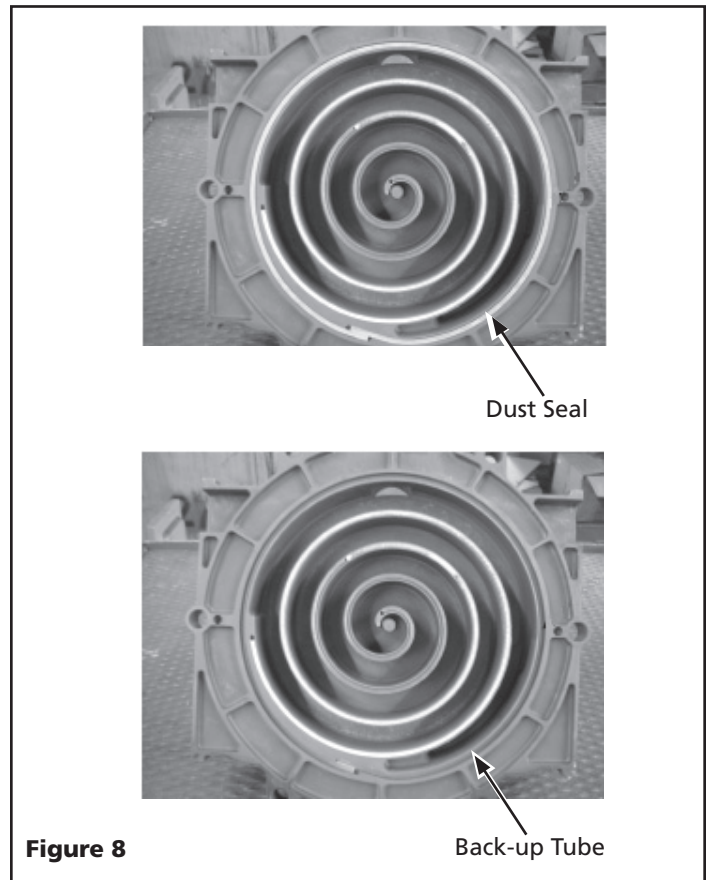

Figure 8
4. Insert new backup tube in the FS Scroll in the 6 o' clock position (See Figure 8).